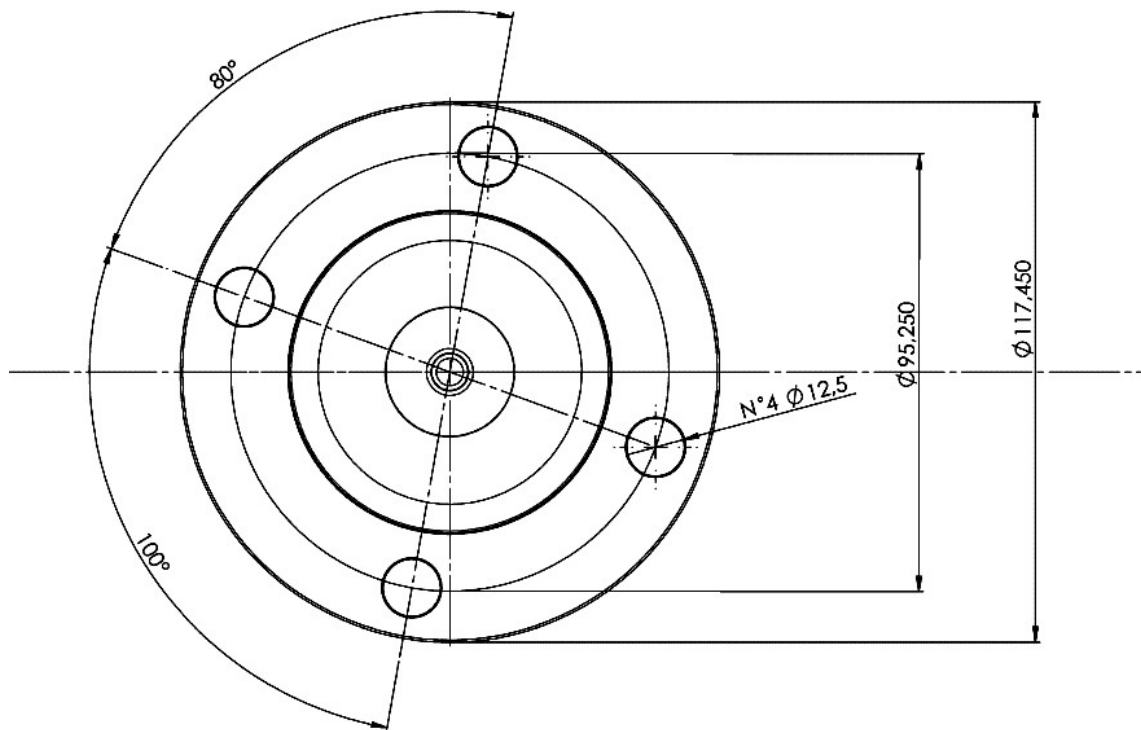

Figure 7: Spicer 1350/1410 series adapter flange, p/n A9472600317, for Rear PTO.
- b. Spicer 1310 Flange: A9472600417 (See Figure 7 for the dimensions)
- Spicer 1310 Flange: A9472600417 (See Figure 7 for the dimensions)